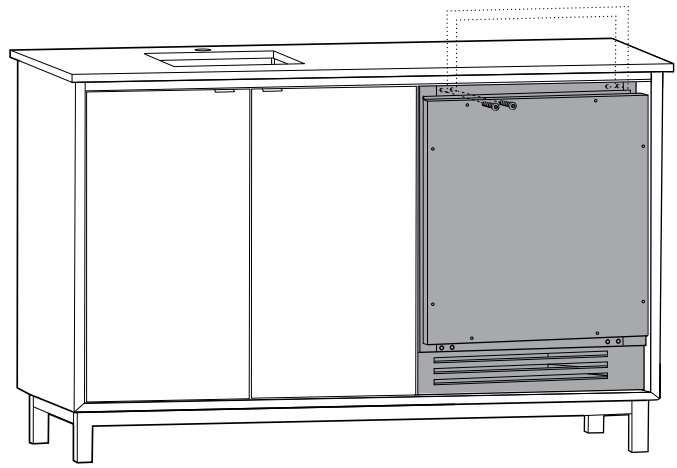

Figure 1
6. See Figure 1 and 2. Using the included hardware, secure the refrigerator to the wood case with the provided L-bracket. Screw two of the additional screws provided through the L-bracket into the fridge. After, screw two of the included screws through the L-bracket into the underside of the top of the case.